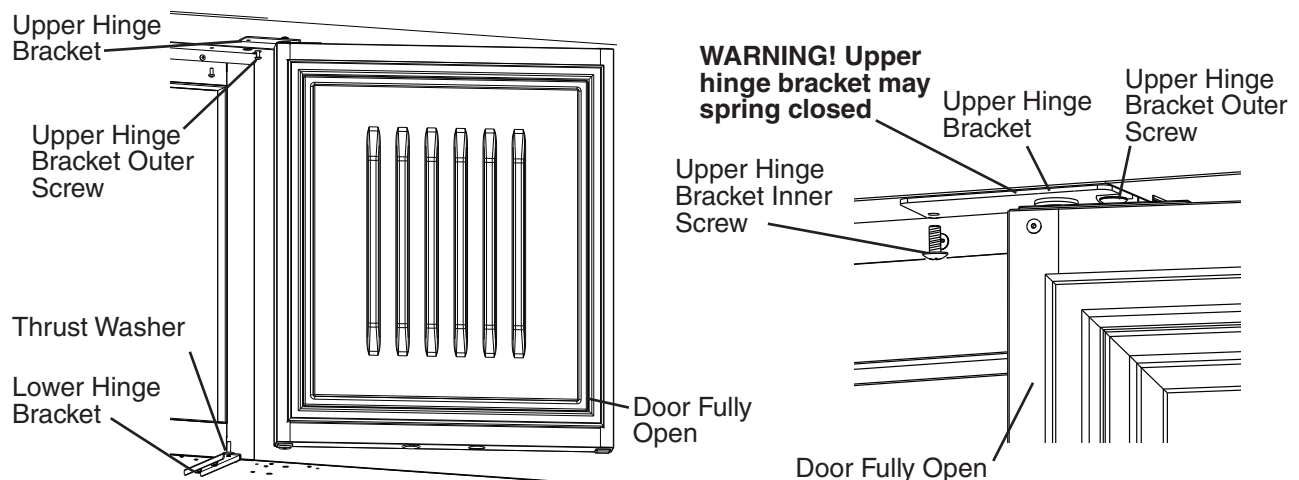

Fig. 35
- 16) Be sure the lower hinge bracket thrust washer is in place, then place the door on the lower hinge bracket in the fully open position. Slide the door upper hinge bracket outer slot onto the upper hinge bracket outer screw. See Fig. 35.